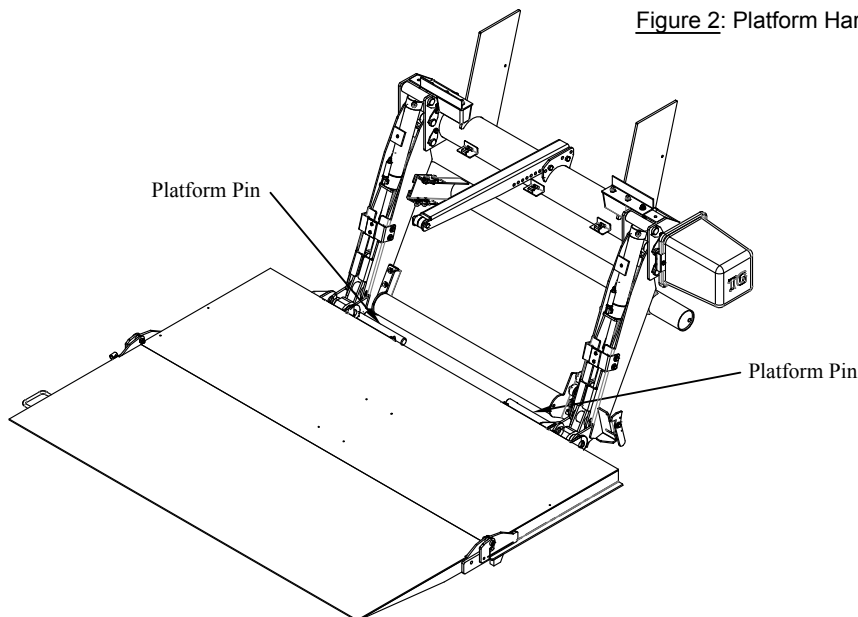

Figure 3: Platform Lowered.
5. **DEPLOY** and **LOWER** the platform to a comfortable working height (Figure 3).
8. **DRIVE** the platform pins towards the center of the platform to remove (Figure 3).